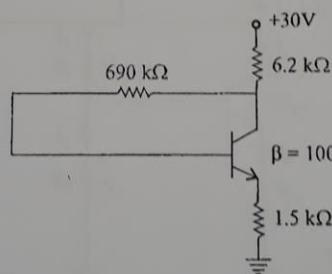

Fig. 1.44
**Example 1.15** For the circuit shown in Fig. 1.44, determine  $I_C$ ,  $V_C$ ,  $V_E$ ,  $V_{CE}$ .